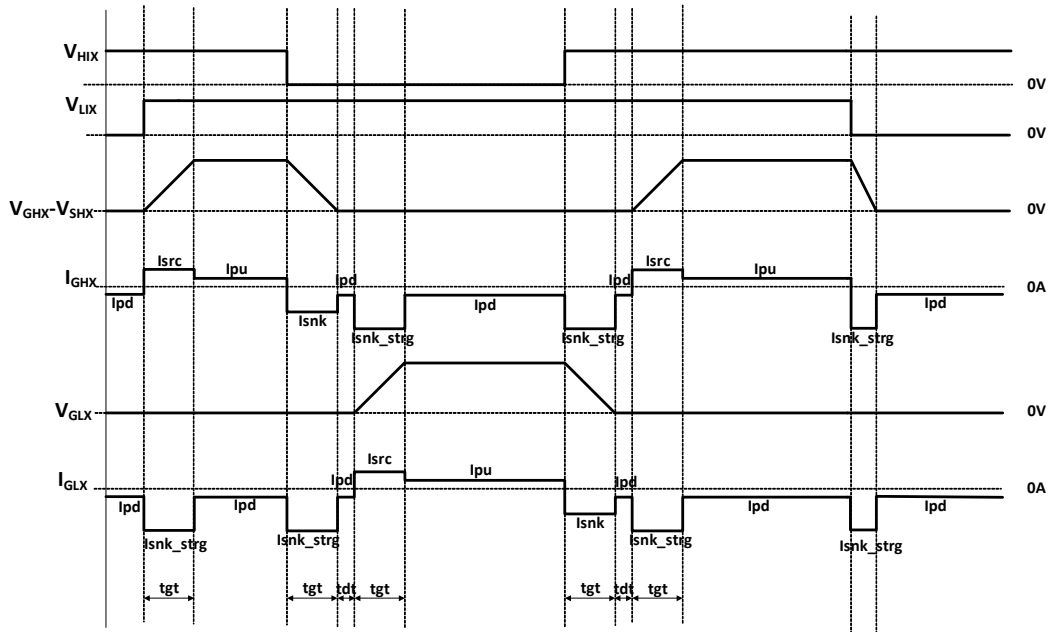

Figure 21. Gate Drive Timing in 3-phase PWM Mode
**Gate drive scheme in 3-phase PWM mode (Figure 21):** The MODE/SDO pins need to be tied to logic high to enable this mode. The MODE/SDO state is latched during the internal logic initialization after VCC POR. Lix serves as enable/disable of the driver output of each phase.